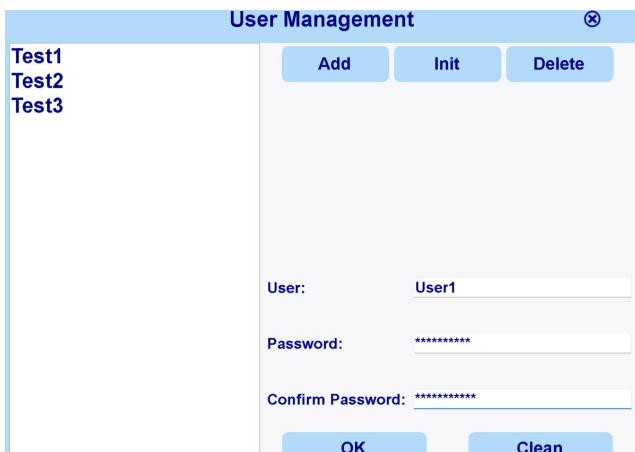
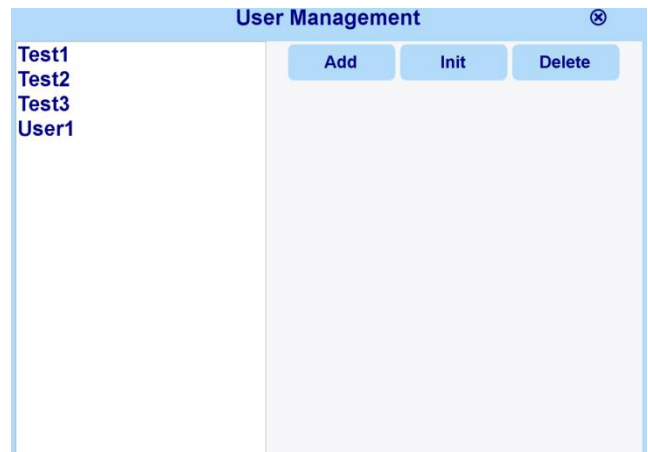

Figure 5-7 User addition interface
Figure 5-8 User added successfully
- **Add user:** Click the "Add" button, the user information input box will be displayed (for example, if we create a new user User1, the user name cannot be empty, cannot be Admin, cannot be Pro\_IGS, and cannot have the same name as the existing user name), enter the password twice in a row , must be consistent and cannot be empty (Figure 5-7 ) , click the "OK" button and User1 will be successfully inserted into the left list (Figure 5-8 ) .